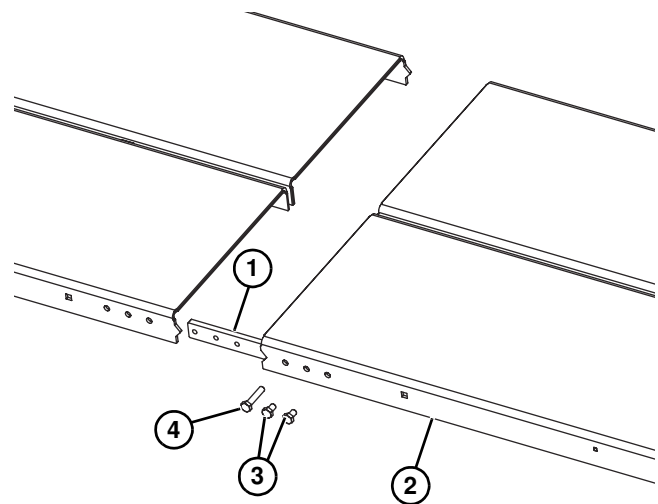

Figure 5
1. Install frame connecting bar (**Figure 5, item 1**) on conveyor frame (**Figure 5, item 2**) with two shorter screws (**Figure 5, item 3**) and one long screw (**Figure 5, item 4**). Do not tighten screws.